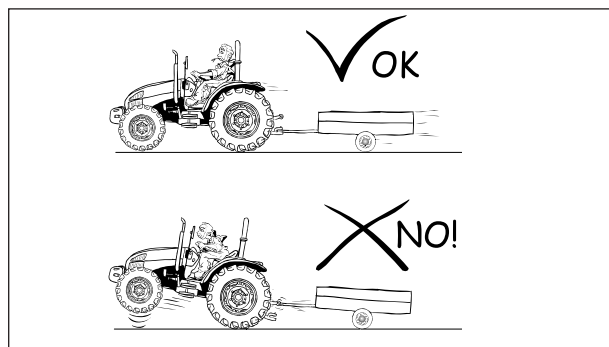

Fig. 2-36
- Hitch loads to the drawbar only. Towing or attaching to other locations may cause the tractor to overturn (Fig.2-36)